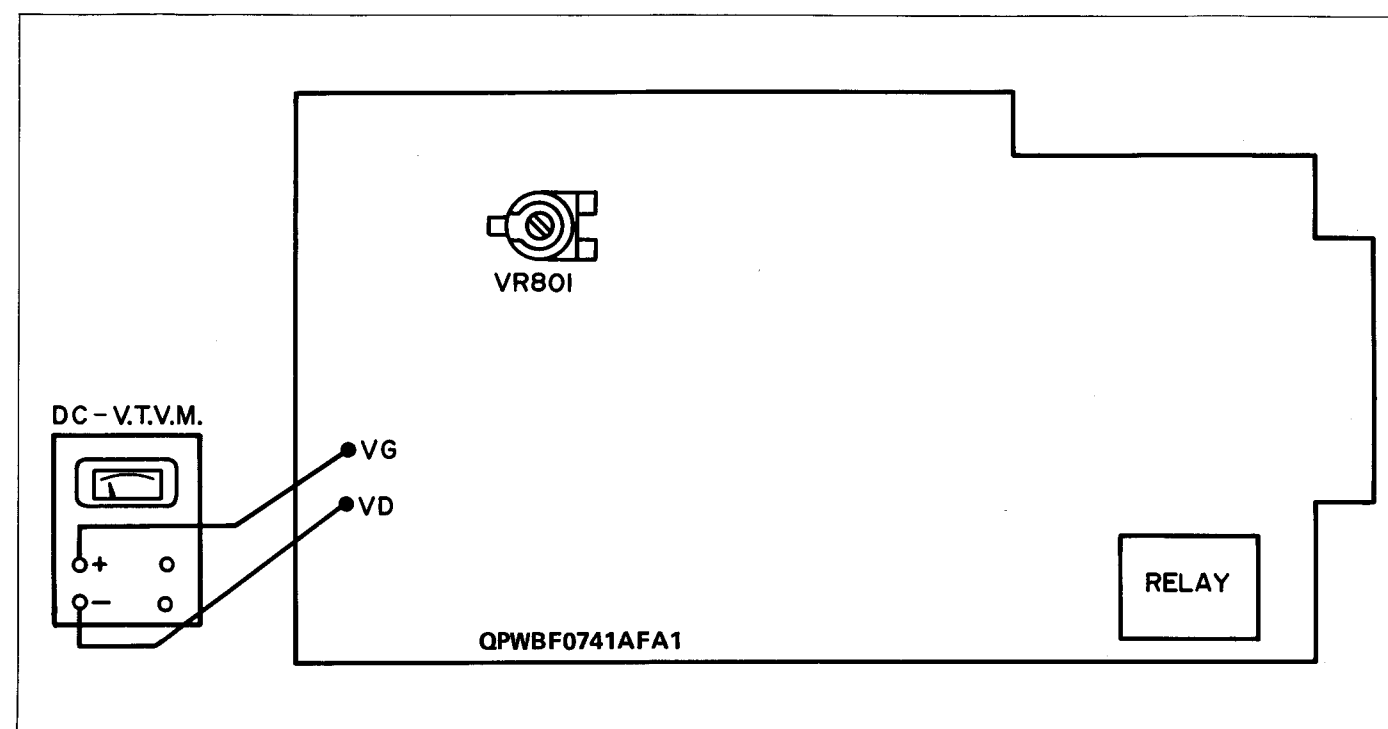
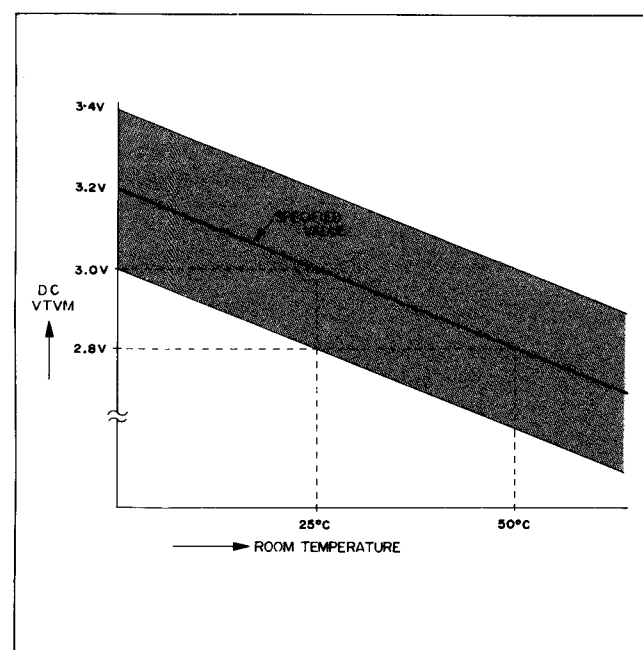

Figure 17
Figure 18
1. Prior to replacement of the control unit, be sure to check for its power supply source after disconnecting the flat cable. Insert the power supply plug into a wall outlet and use a DC-VTVM to measure a voltage between the terminals VG and VD of the power P.W.B. (QPWBF 0741AFA1). (See Figure 17) At the time make sure that the DC-VTVM is within the indication in Figure 18.
Figure 18 shows the relation between the room temperature (in the horizontal axis) and the voltage amount indicated by the VTVM (in the vertical axis). Referring to the figure, check that the measured voltage is within ± 0.2 V of the specified value.
The transistor (Q819) serves to change the supply voltage to the control unit as shown in Figure 18. This is for the purpose to make the LCD in the control unit visible normally always regardless of a temperature fluctuation in the room.